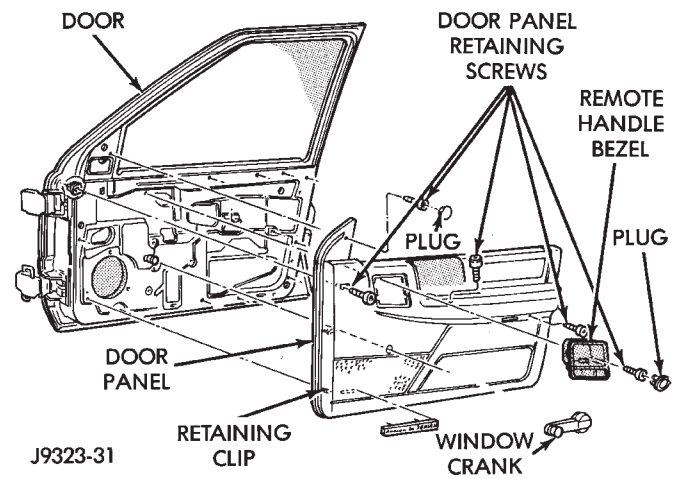

Fig. 2 Door Panel Removal
(1) Remove screw at top of trim panel near mirror (Fig. 2).
(2) Remove screw from demister opening at front of door.
(3) Remove screw and door handle cover.
(4) Remove screw from under armrest.
(5) Remove screw from bottom of hand hold in armrest.